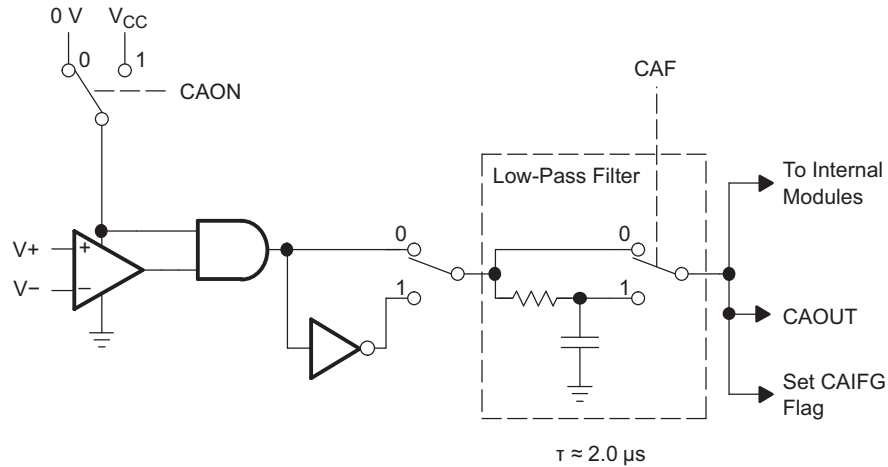
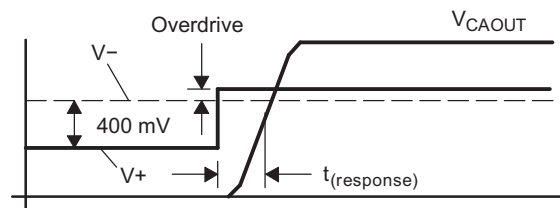

Figure 25. Comparator\_A+ Module Block Diagram
Figure 26. Overdrive Definition
| t (response)           | Response time(low-high and high-low)                    | T A = 25°C, Overdrive 10 mV,Without filter: CAF = 0 (3)(see <a href="#">Figure 25</a> and <a href="#">Figure 26</a> ) | 2.2 V           | 80   | 165  | 300                 | ns   |
|                                   |                                                             | T A = 25°C, Overdrive 10 mV,With filter: CAF = 1 (3)(see <a href="#">Figure 25</a> and <a href="#">Figure 26</a> )    | 2.2 V           | 1.4  | 1.9  | 2.8                 | μs   |